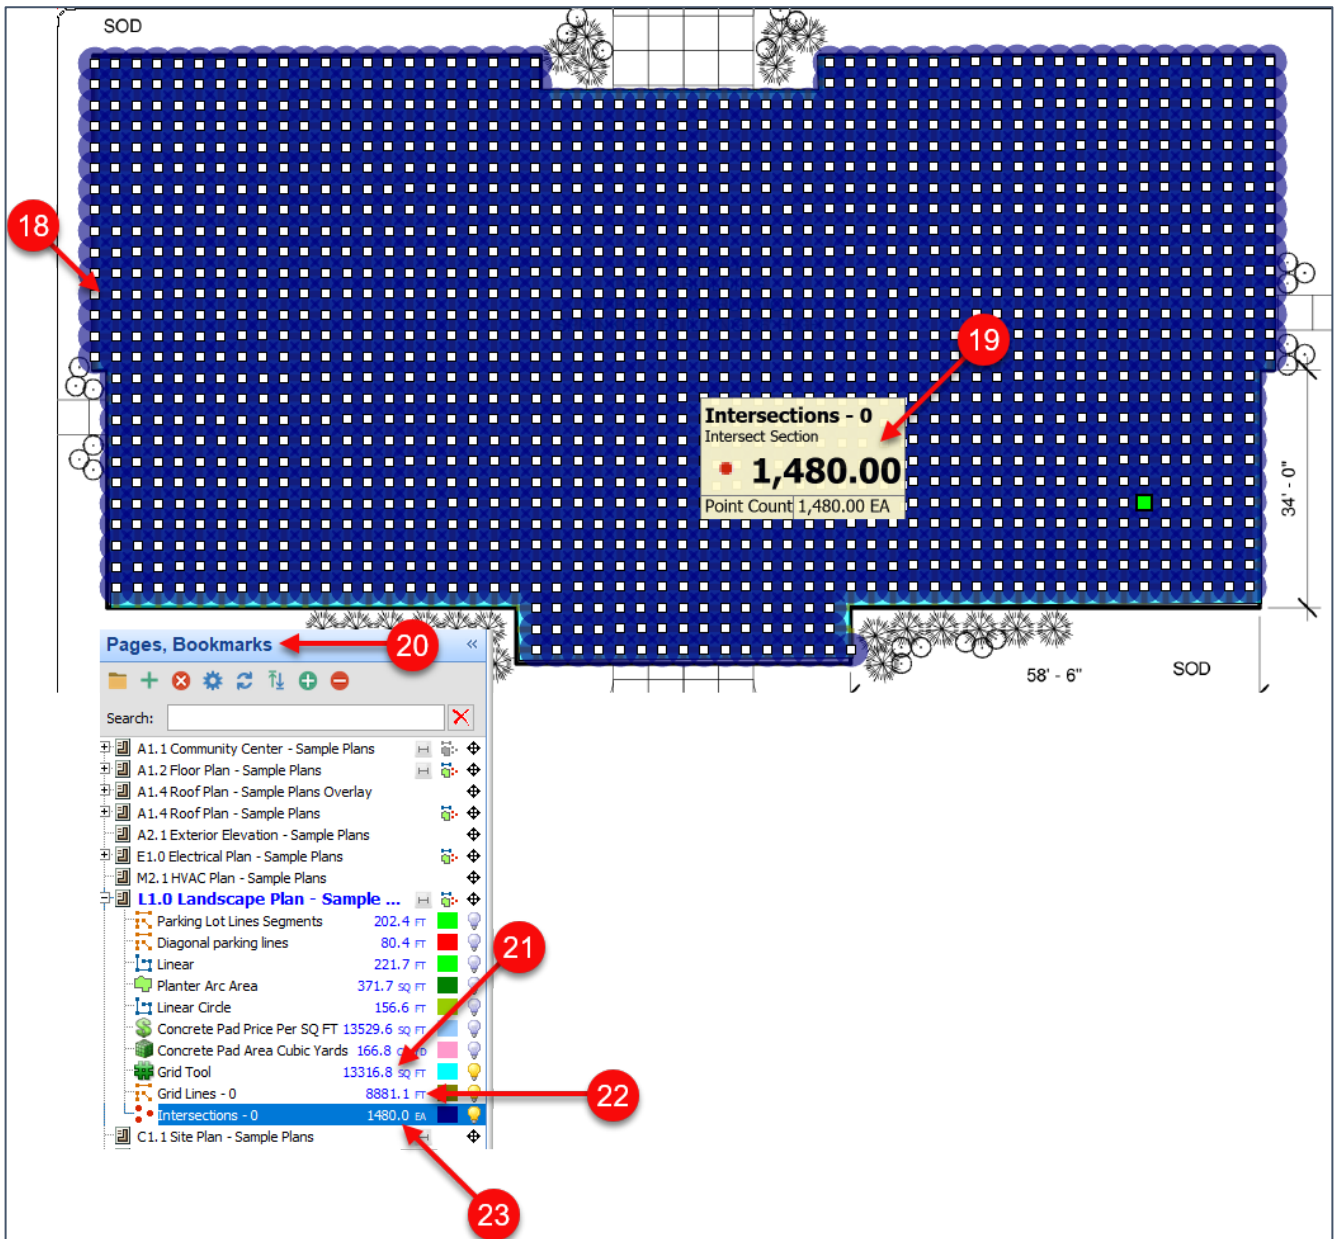

Figure 35-C
- 11. Click on the **Estimating** tab of the PlanSwift main menu (Fig. 35-D).